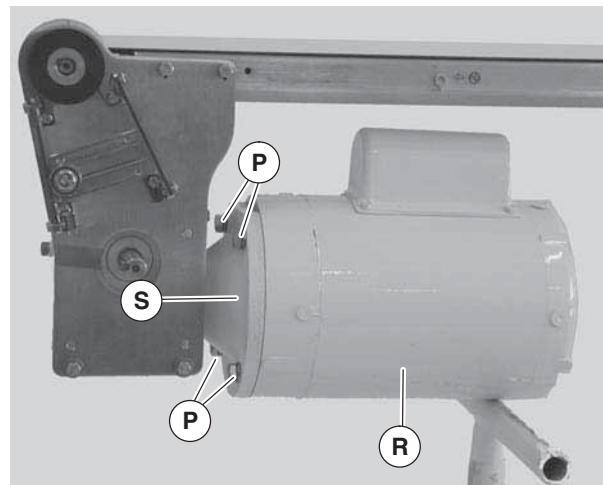

Figure 39
4. Remove four screws and washers (Figure 39, item P). Remove motor (R) from gear reducer (S).